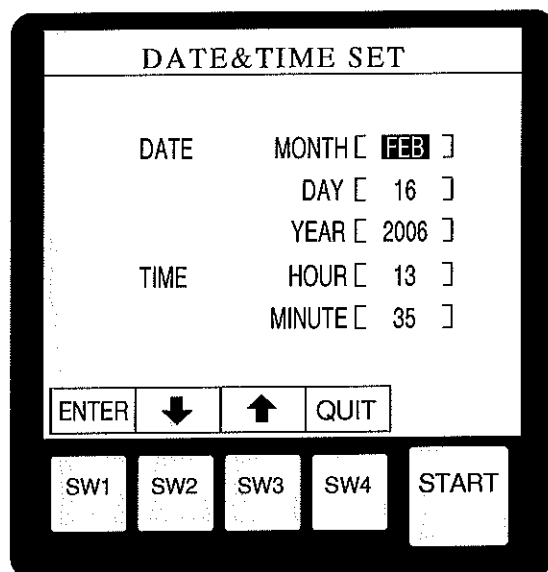

Fig. 8-2
- (3) A screen as shown in Fig. 8-2 is displayed. The MONTH should be blinking. To correct the month press either the SW2(↓) or SW3(↑) key, then press the SW1(ENTER) key.
- (4) Next, the DAY begins to blink. Correct the DAY, YEAR, HOUR and the MINUTE values in the same manner. If the wrong number is entered, press the SW4(QUIT) key and repeat setting from step 1.
- (5) After the final MINUTE value is entered, press the SW1(ENTER) key. A "beep" will sound and the unit switches back to the SET UP MENU screen. To return to a measurement display screen, press the SW4(QUIT) key.
- (6) The display should return to a screen as illustrated in the measurement (or ZERO SET END) display. Date and time setting is now complete.